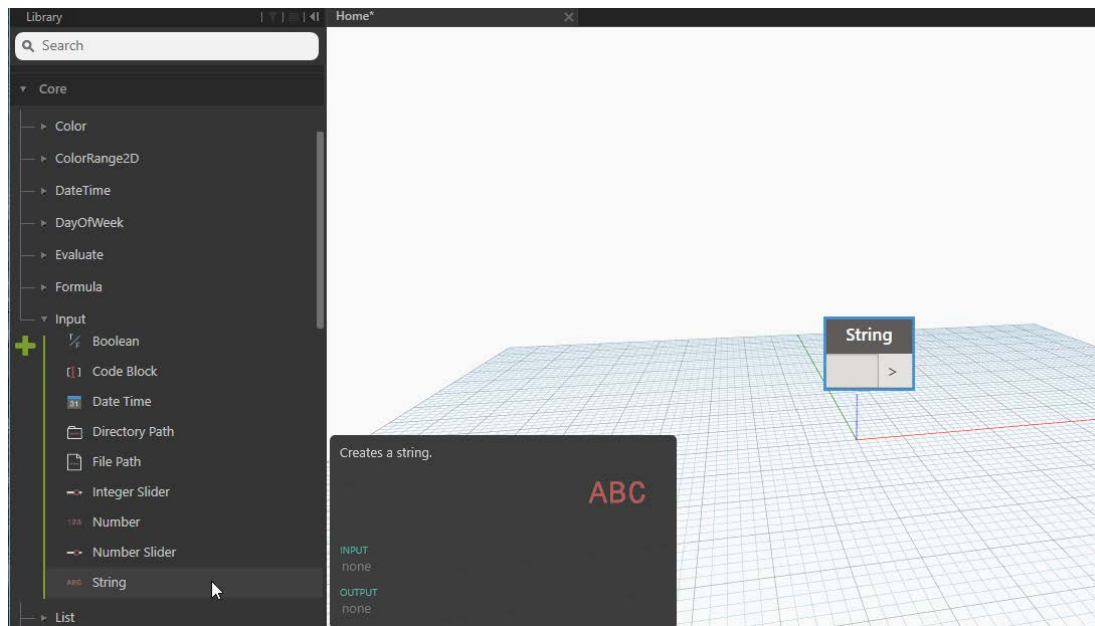

Figure 12
8. Click the **String** node to add it to the canvas (see Figure 12).